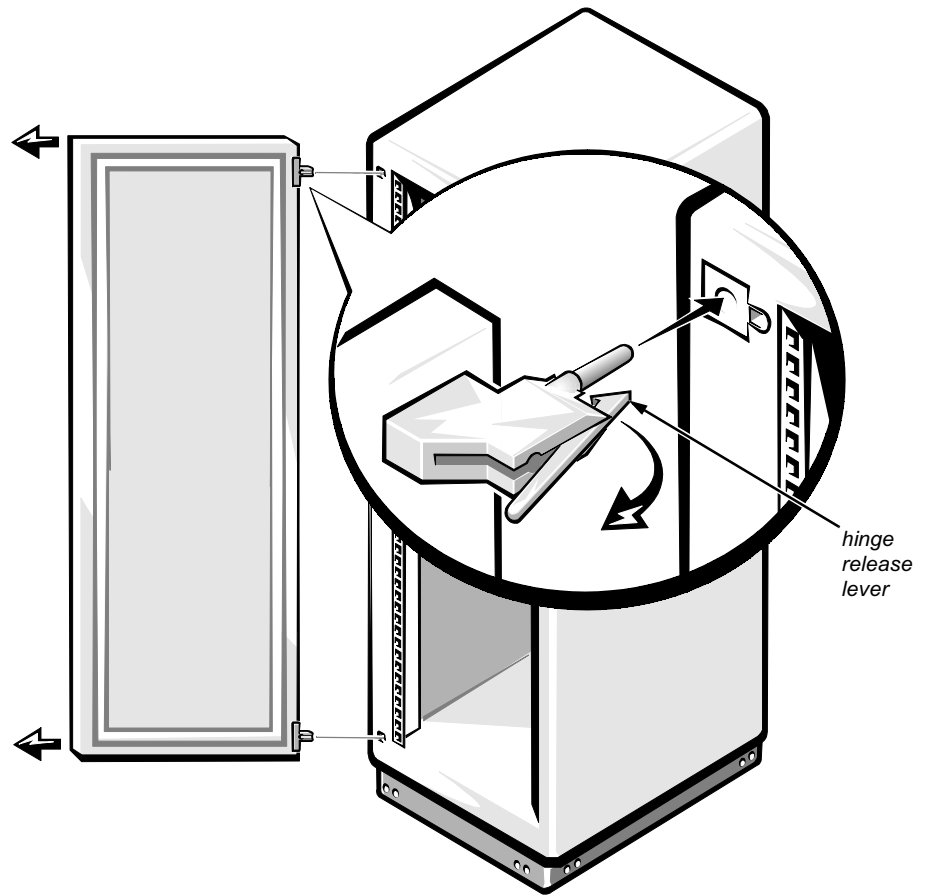

Figure 3. Removing the Doors
2. Remove the front door as shown in Figure 3.